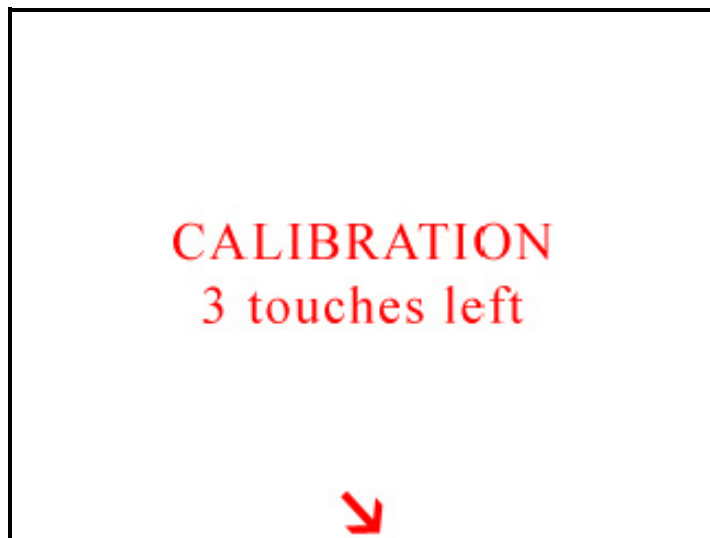

Figure 5-30 Verify Alignment of Touch Screen
- Press anywhere inside the rectangle to when you are ready to complete aligning the screen. See Figure 5-30.